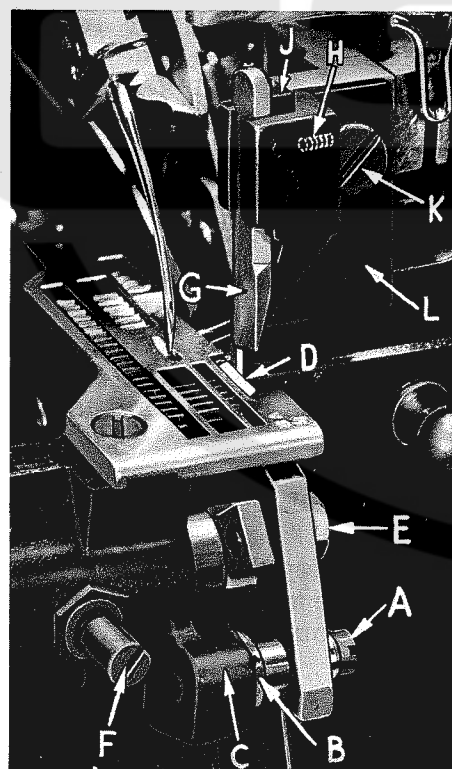

Fig. 15
Replace lower knife holder assembly. In replacing lower knife holder assembly, tighten screw (A, Fig. 15) so that when the face of the flange on sleeve (B) seats against throat plate mounting bracket (C) a free lateral motion of the lower knife and holder assembly is obtained when the knife is manually pressed at its upper corner. Lower knife (D) should be set with cutting edge flush with throat plate surface. Adjustments are made with hexagonal head screw (E) which holds the lower knife. Lower knife is spring pressed against the upper knife, so no lateral adjustment is necessary when the width of trim is changed.
Replace upper knife assembly. Clamp upper knife (G, Fig. 15) in position, setting allen screw (H) to hold clamp (J) against the upper knife. At bottom of its stroke, front cutting edge of upper knife should extend not less than $1/64$ inch below cutting edge of the lower knife.